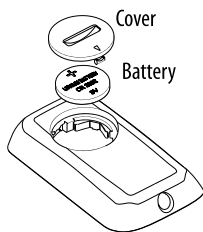

Fig. 1
- To replace the batteries, remove the battery cover by rotating it. Replace the battery paying attention to respect the right polarity as shown in figure 1.